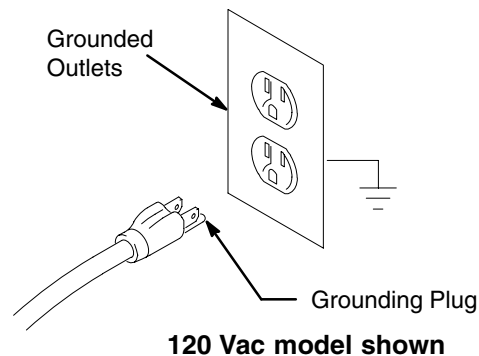

Fig. 2
1. All models require a grounded outlet for power connection. Circuit must be 50/60 Hz with an Ampere rating equal to or greater than the sprayer. See Fig. 2.